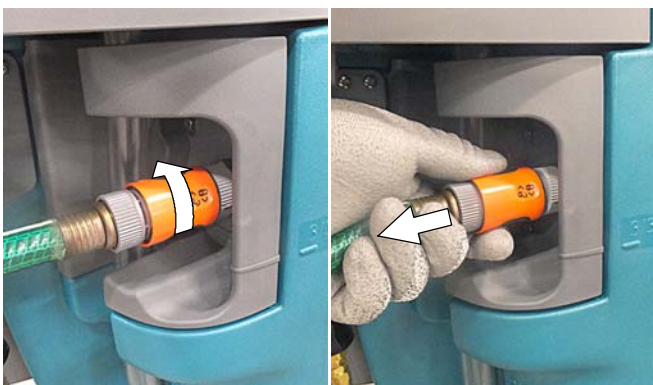

FIG. 25
- Turn collar on coupler counter-clockwise to unlock connection. Then simply pull back on coupler to disconnect hose from machine (Figure 25).